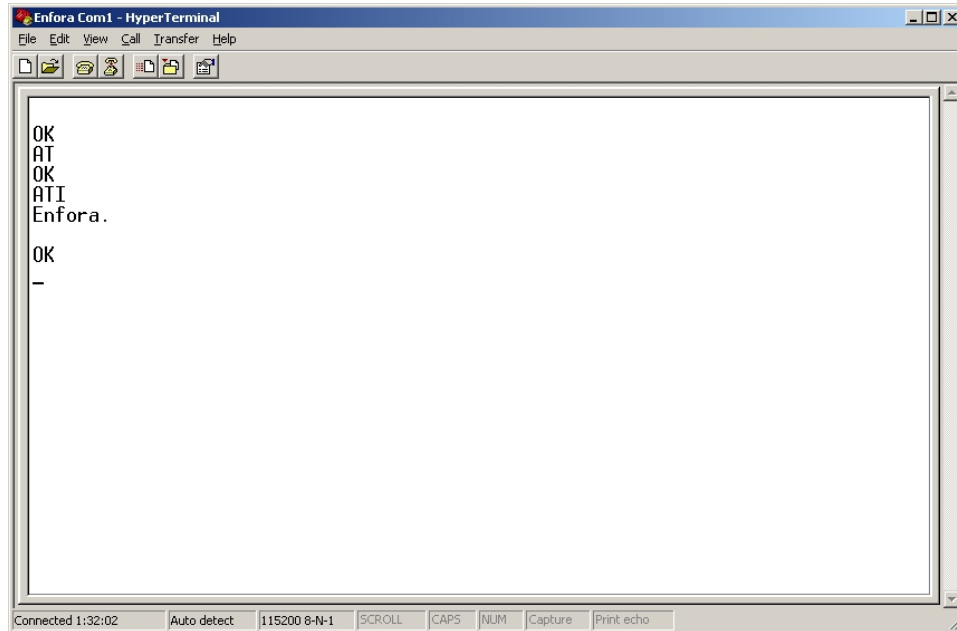

Figure: 46 - ATI Response
6. Verify that you see the device respond with Enfora, Inc. See Figure: 46 - "ATI Response" . If so, you have successfully configured the device to talk with the server.